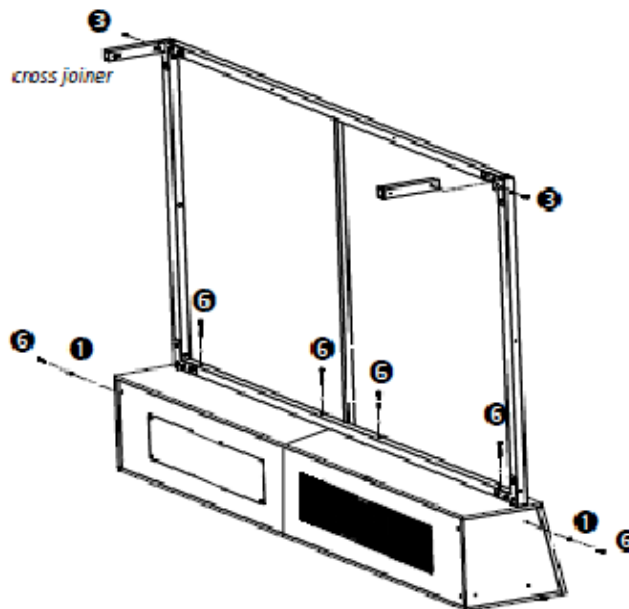

Figure 3: Screen Base Assembly with Front Screen Assembly
5. Insert five ③ bolts through T bracket. Do not tighten.
9. Affix one ③ bolt through the corner bracket flap into the cross joiner. Tighten bolt. *See Figure 3.*
See Figure 3.